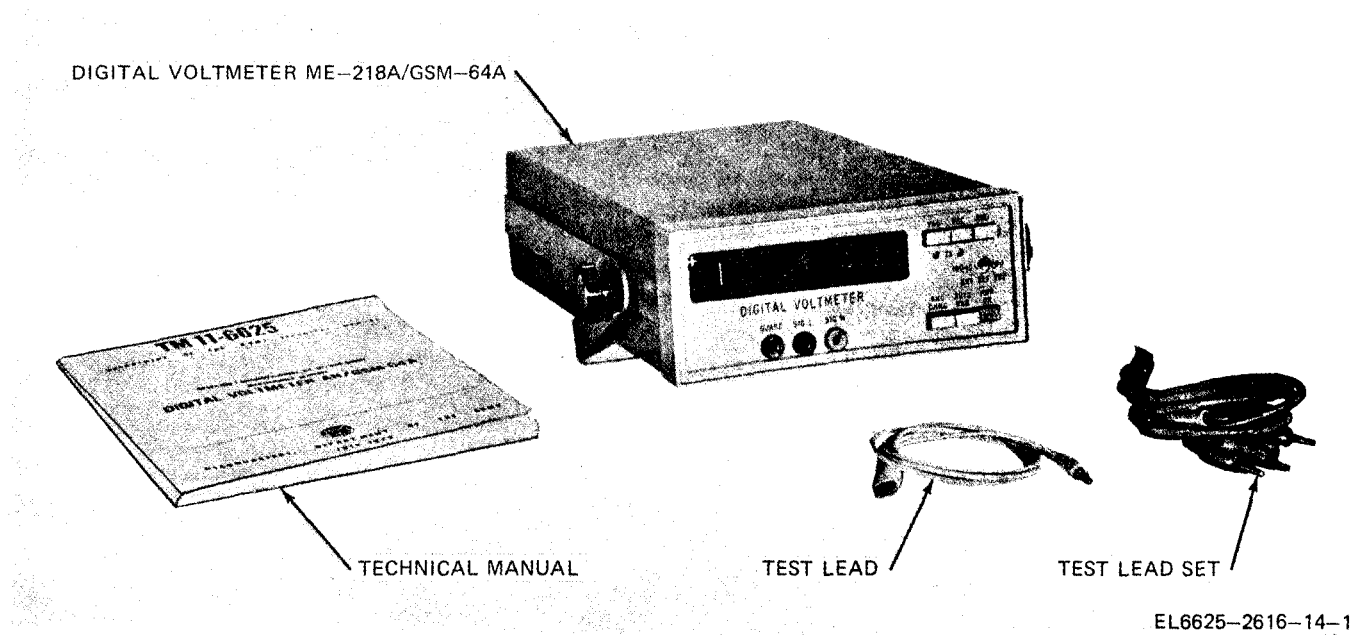

Figure 1-1. Digital Voltmeteter AN/GSM-64A.
*a.* Digital Voltmeter AN/GSM-64A (fig. 1-1) is a five-digit digital voltmeter used to measure dc voltages in three ranges from  $\pm 0.0001$  volt to  $\pm 1000.0$  volts, and dc voltage ratio (with  $\pm 1$  volt to  $\pm 10$  volts reference input) in three ranges from 000,000 to  $\pm 11999.9$  percent or (with  $\pm 10$  volts to  $\pm 100$  volts reference input) in three ranges from 00.0000 to  $\pm 1199.99$  percent.